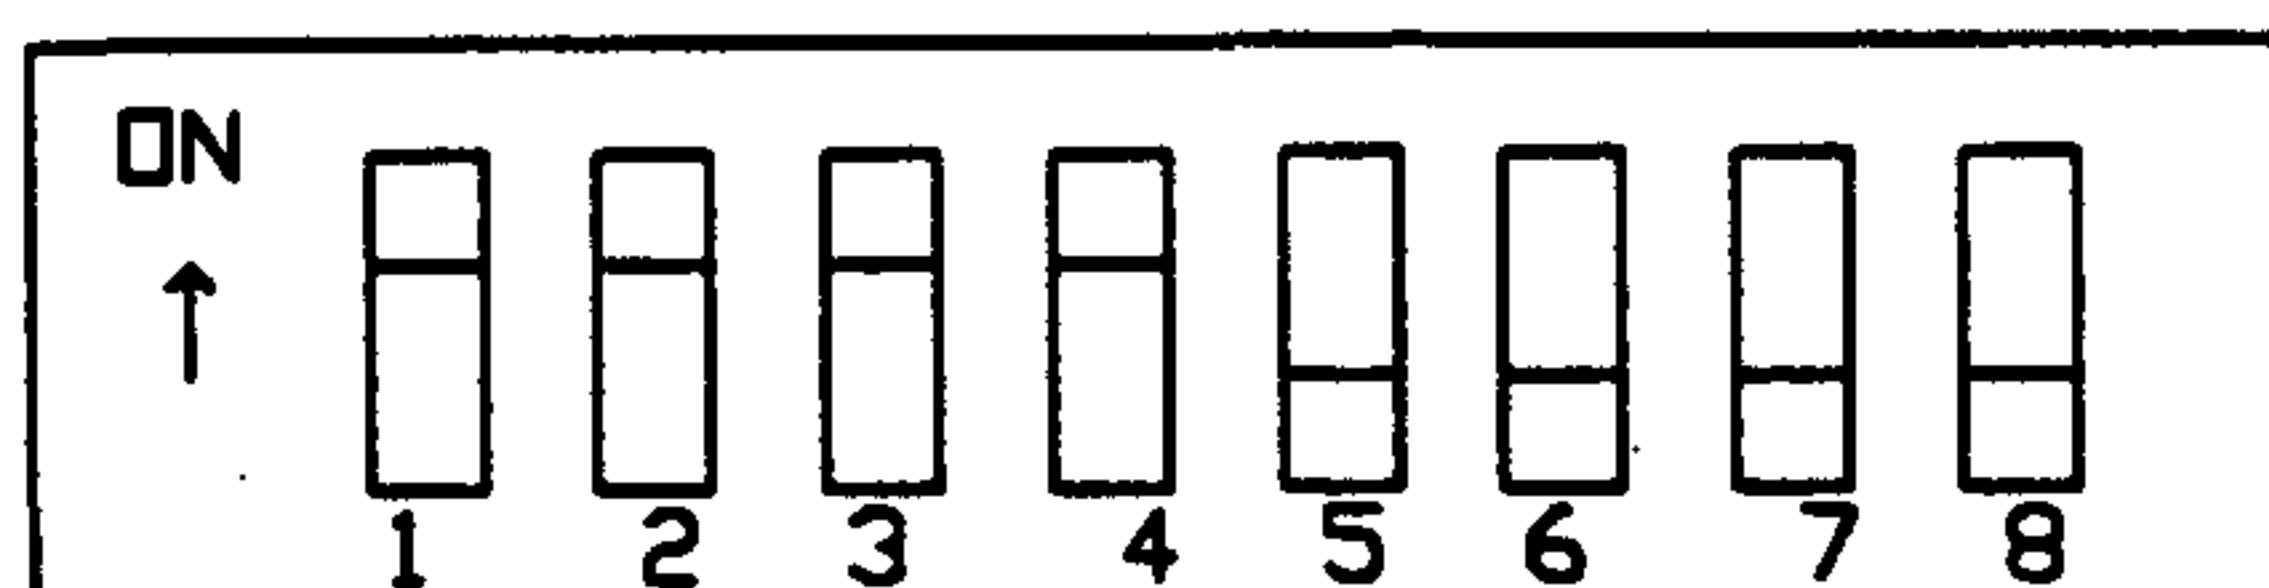

Figure 4-2. Dip Switch Settings
1. Verify that the outputs on the defrost module have been configured correctly for those defrost circuits with gas type defrosts. Go to the DEFROST menu in the Defrost Manager and check each defrost circuit that have been programmed as gas defrosts. Verify that the eight pin dip switch located on the defrost module corresponds with those circuits with gas defrosts. The dip switch, shown in Figure 4-2, indicates a dip switch in the ON position as being a gas defrost circuit. When the dip switch is in the ON position, the ninth relay will automatically be energized. Verify that all dip switch settings are correct.